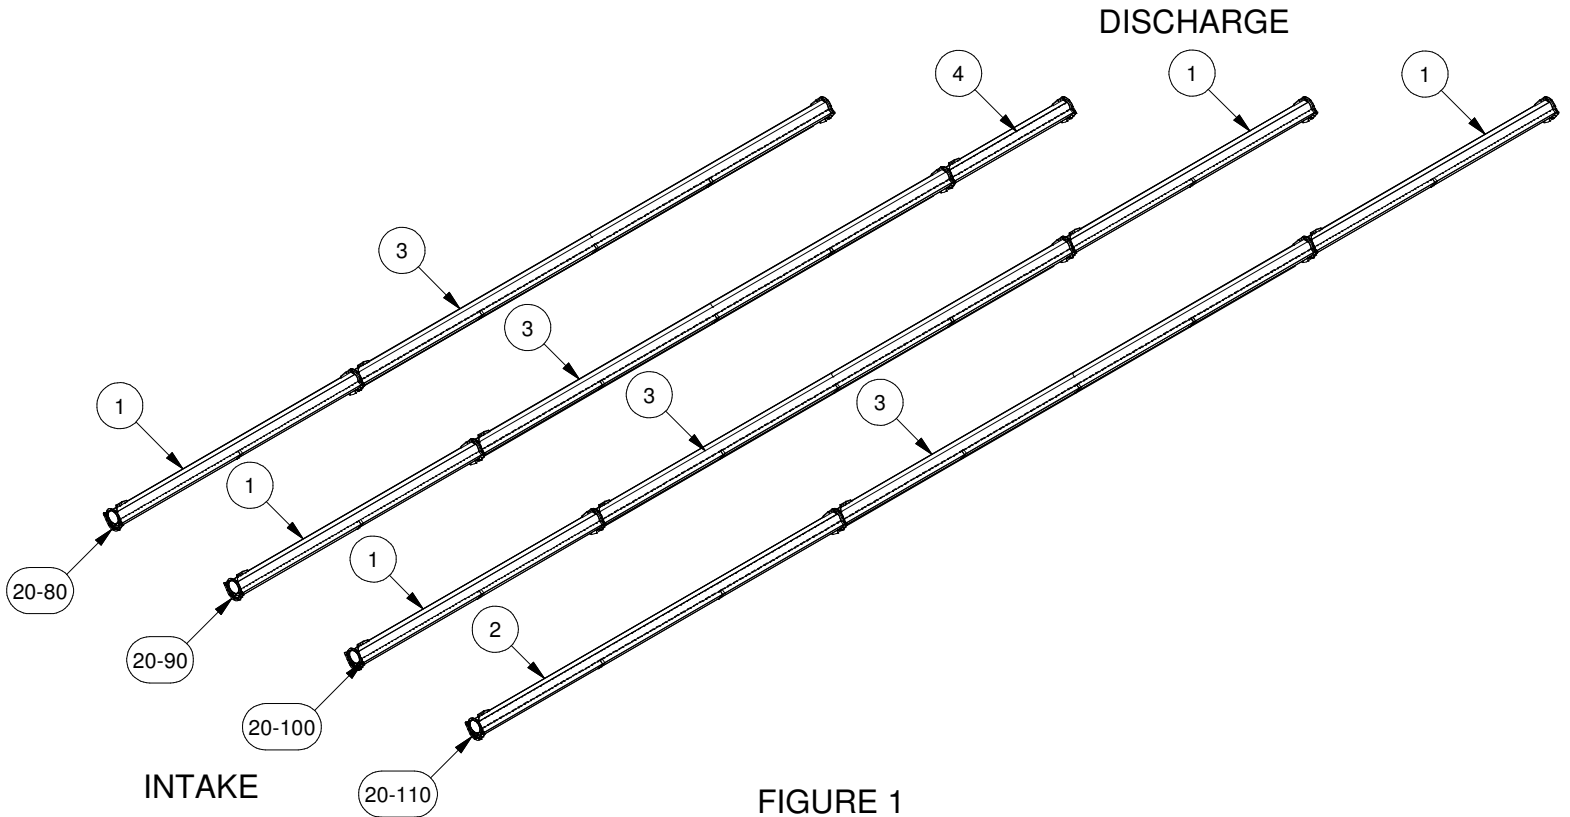

FIGURE 1
See Figure 1 for the tube order of assembly.
1. Attach the Intake (Item 1 in Figure 1) to the First Tube by using 2 Tube Outside Brace PN# 5818 and Tube Spacer Plate PN# 5817 complete with Bolts and Nuts found in Bolt Bag PN# 6692. Mount the Winch PN# 6693 to the Tube Flange using Carriage Bolts c/w Hex Nuts (See Detail A). All parts and Bolt Bag can be found in the Long Intake Hardware Box PN# 7526.